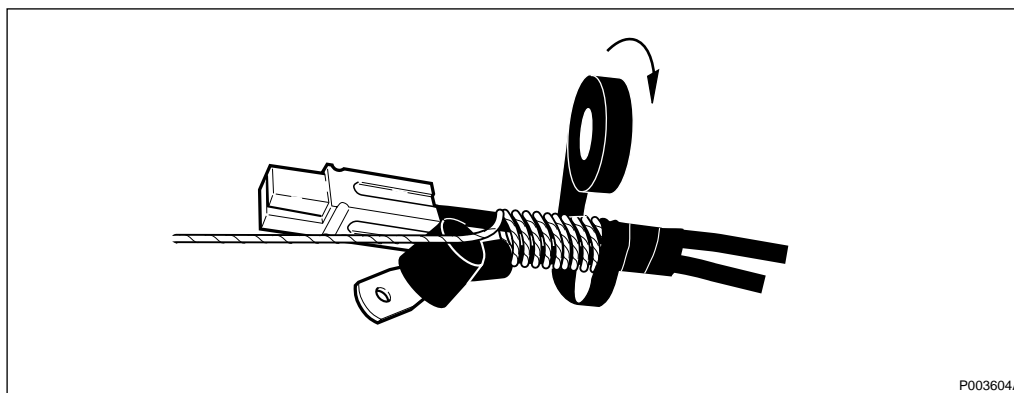

Figure 158 Attaching a draw cord to DC filter cables
11. Remove the draw cord from the old DC filter cables and attach it to the cables of the new DC filter, refer to Figure 158 on page 290. Ensure that the tape covers the connectors.